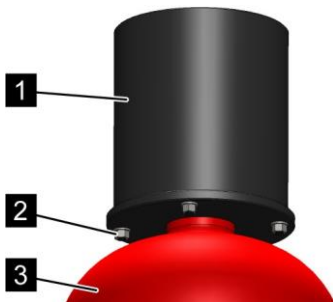

Fig. 52: Protective valve cap
3. ➤ Fit on and screw (Fig. 52/2) the protective valve cap (Fig. 52/1) onto the extinguishing agent container (Fig. 52/3).